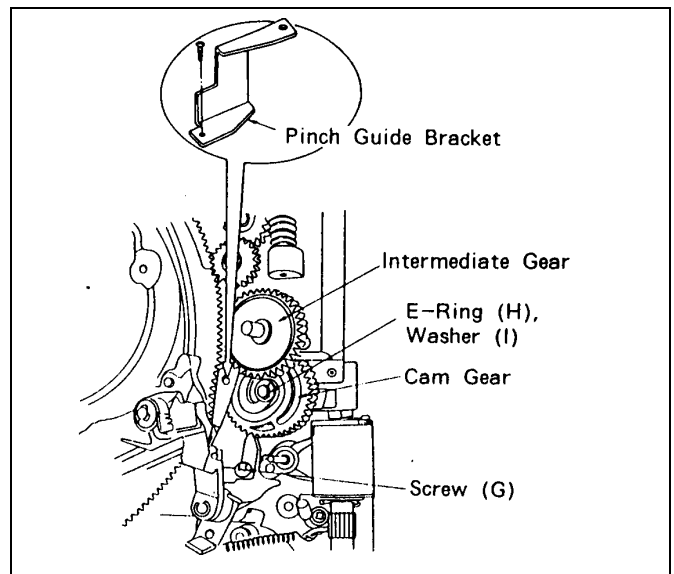

Figure 7-19-3 Cam Gear Removal (3)
6. Remove screw (G) and remove the Pinch Guide Bracket as shown in figure 7-19-3.
7. Remove Intermediate Gear, E-Ring (H), Washer (I) and Cam Gear as shown in figure 7-19-3.